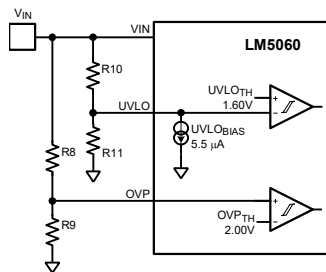

Figure 30. Programming the Thresholds with Resistors R8-R11
**Option B:** UVLO and OVP can be independently adjusted using two resistor dividers as shown in Figure 30.
**Option C:** The OVP function can be disabled by grounding the OVP pin. The UVLO thresholds are set as described in Figure 30.